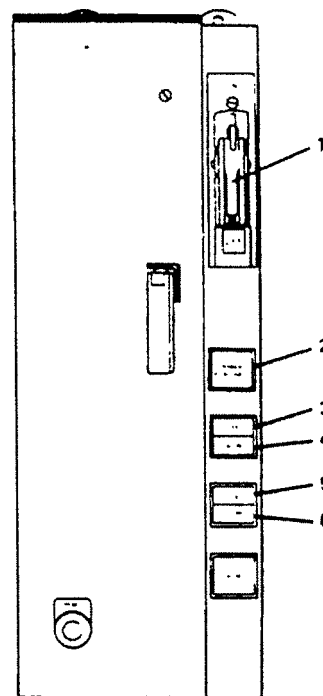

Figure 2-159. Engine Room Supply and Exhaust Fans Motor Controllers. █
(Figure 2-159). On No. 1 and No. 2 motor controllers: █
(2) Emergency diesel generator control panel.
- (a) Turn red start/stop pushbutton (3) clockwise to release pushbutton to out position.
- (b) Set control switch (2) to auto start position.
(3) Valve Alignment. Open FO-32 (FO SPLY TO EDG) located in the EDG room overhead outboard.
(7) Engine Room Exhaust Fans Motor Controllers (Figure 2-159). On No. 1 and No. 2 motor controllers:
- (a) Set ON-OFF switch (1) to ON position.
- (b) POWER AVAILABLE indicator (2) will light.
- (c) Press FAST pushbutton (5).